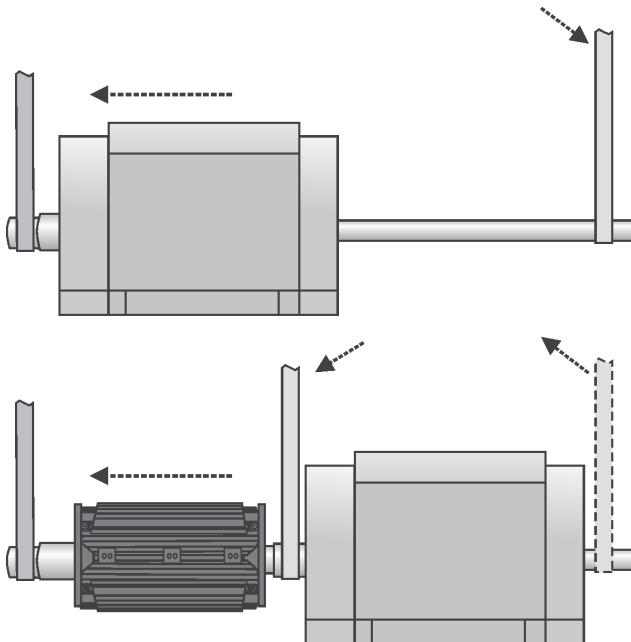

Figure 23 Floating the Rotor
9. Float out the rotor (see Figure 23). First attach a pipe over the shaft on the drive end. Attach slings around the pipe on one end and around the shaft on the opposite end. Lift up the rotor, and move it out, resting the rotor as the slings are moved down the pipe for the next lifting stage.